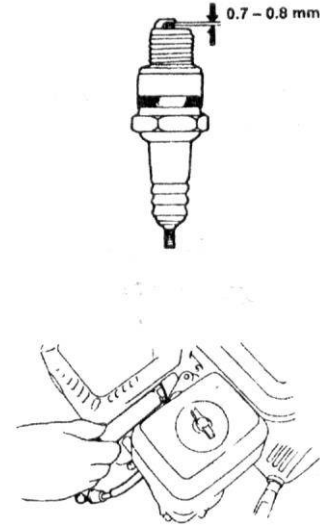

Fig. 29
- c) Measure the spark plug clearance with a feeler. The clearance should be $0.7\sim 0.8\text{mm}$ (Fig. 29). If adjustment is necessary, bend the side electrode carefully.